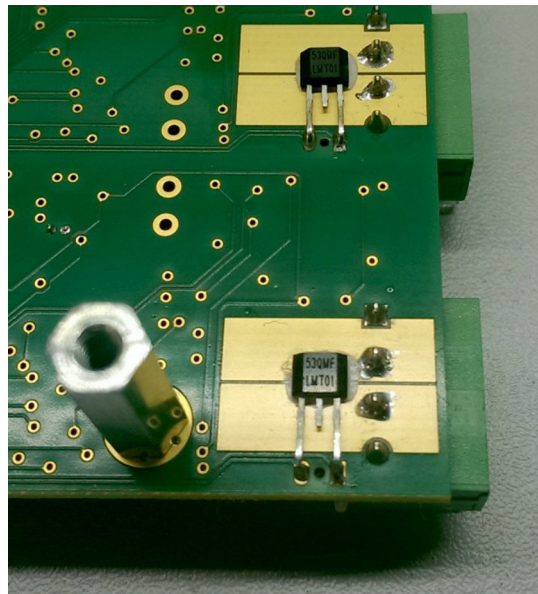

図 6. LMT01 Mounting
CJC is required for proper TC measurement (1). The local temperature measured at the terminal screws is added to the temperature measured by the TC to obtain the correct temperature at the TC. The local temperature is measured with the LMT01. The 2TO-92 package comes handy to measure the cold-junction temperature where it is actually generated, at the terminal block (see Figure 6). The two large pads (without solder masks) are thermally connected to T2 and T3 to mirror the temperature at the terminal screws as accurate as possible. The LMT01 is glued to the pads in a way that the temperatures of T2 and T3 influence the LMT01 equally.